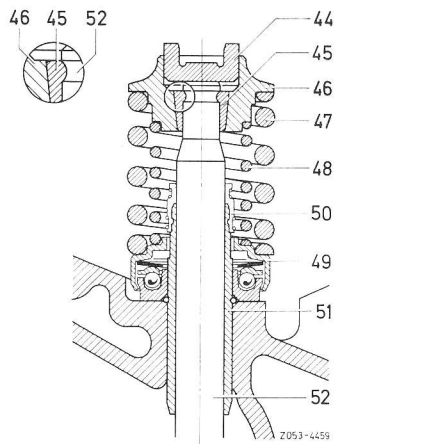

Fig. 1
- 5 Remove valve spring retainer, valve springs and valve stem seals (50) (Fig. 1).